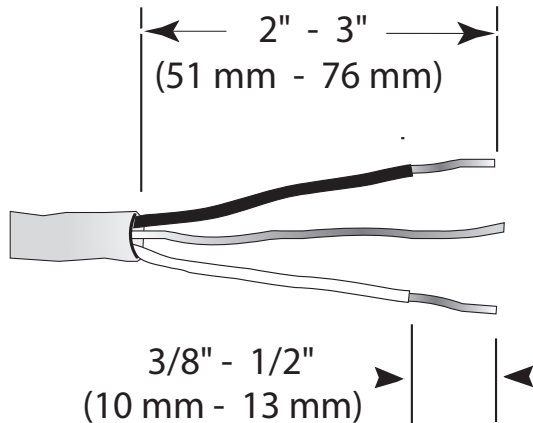

Figure 10
2. Remove 2" to 3" (51 - 76 mm) of the outer casing of the household or field supply wiring as shown in **Figure 10**. Remove $\frac{3}{8}$ " to $\frac{1}{2}$ " (10 - 13 mm) of the insulation from each wire as shown in **Figure 10**.